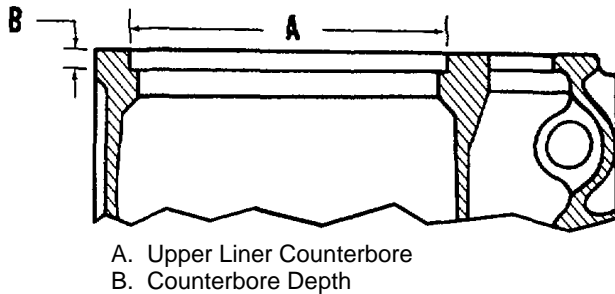

Fig. 1-1 (N 10103). Cylinder liner counterbore dimension location.
1. Check upper liner counterbore and remove burrs, dirt, etc., so liner will enter without distortion (A, Fig. 1-1). If counterbore exceeds limits listed in Table 1-1 (2) for the top 0.250 inch [6.35 mm] depth, mark blocks for counterbore repair. The counterbore ledge must be smooth and perpendicular to the liner bore to within 0.005 inch [0.13mm] total indicator reading. Use a straight edge to check flatness of top of block. Refer to "Top Surface Refinishing."